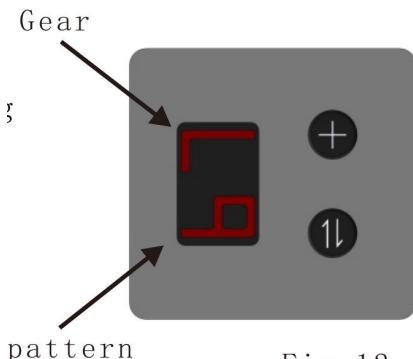

Fig. 12
-Check the appearance of the friction melting face (reference Figure 12) that should be uniform and flat. If the surface is not well, check the friction melting time setting (see 6. 3.Section 3).